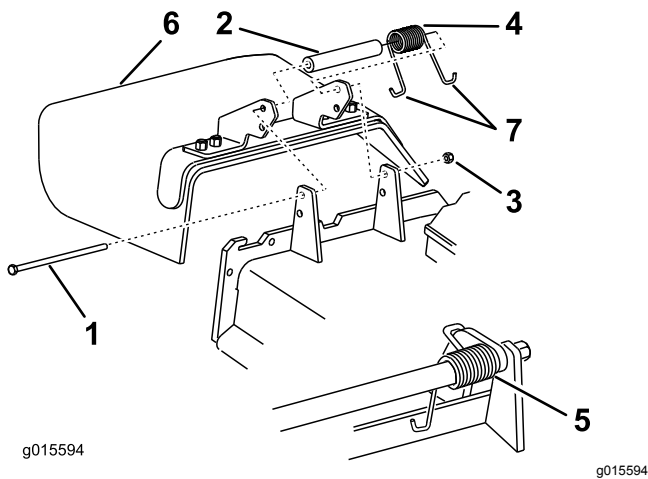

Figure 101
1. Remove the locknut, bolt, spring, and spacer holding the deflector to the pivot brackets (Figure 101).
Note: Ensure that a J-end of spring is installed behind deck edge before installing the bolt as shown in Figure 101.
5. Place a J-hook end of spring around grass deflector (Figure 101).